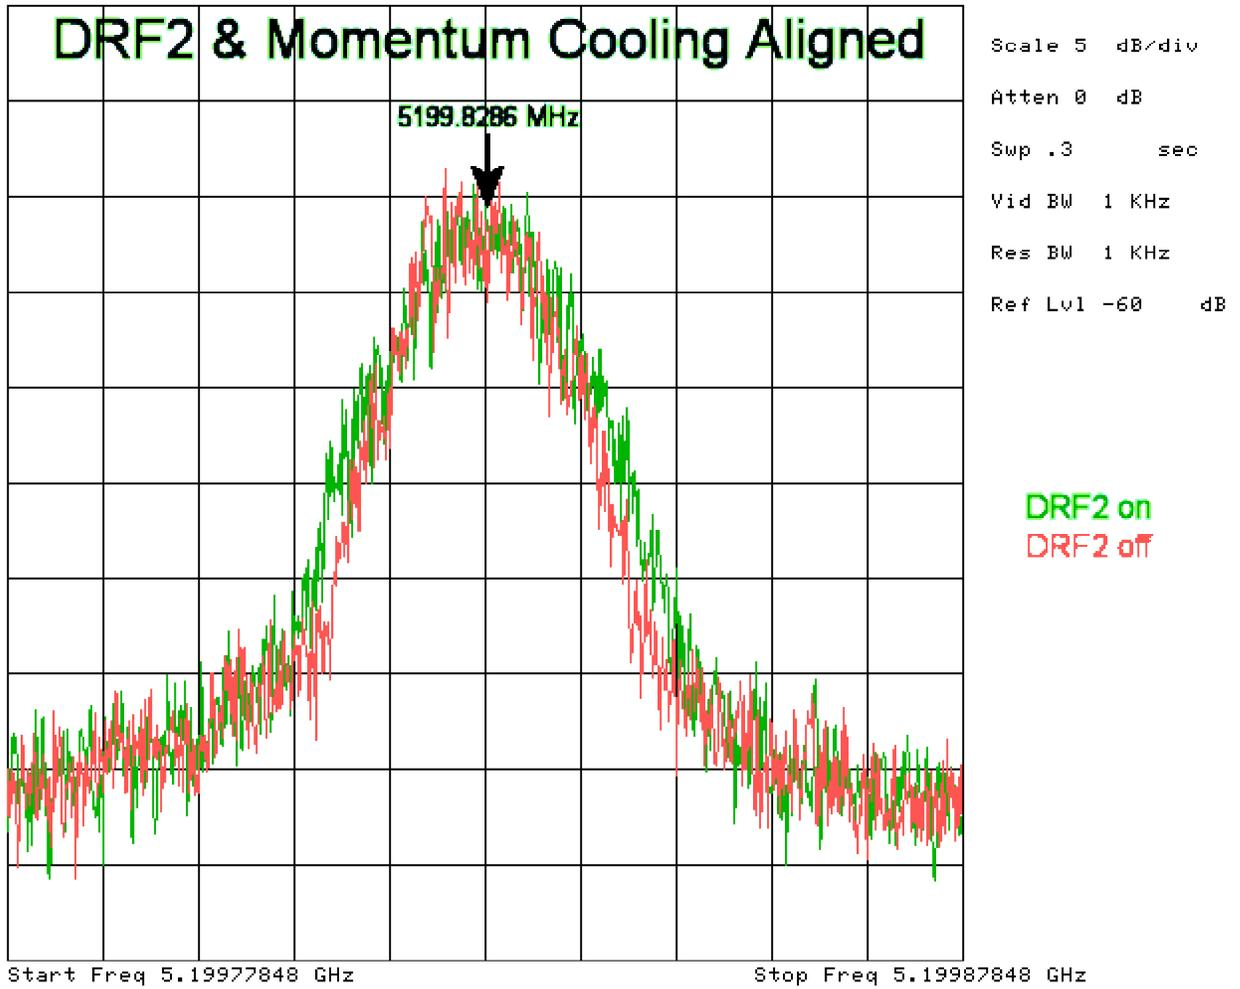

Figure 6: Green trace is with DRF2 on. Red trace is with DRF2 off. In this case, D:PJWR53 is set to approximately the correct value.
- b. If the peaks are not aligned, adjust D:PJWR₅₃ in steps of 10 Hz from parameter Page P8 DRF₁ <29>. Figures 6 -8 below show examples of misalignments.